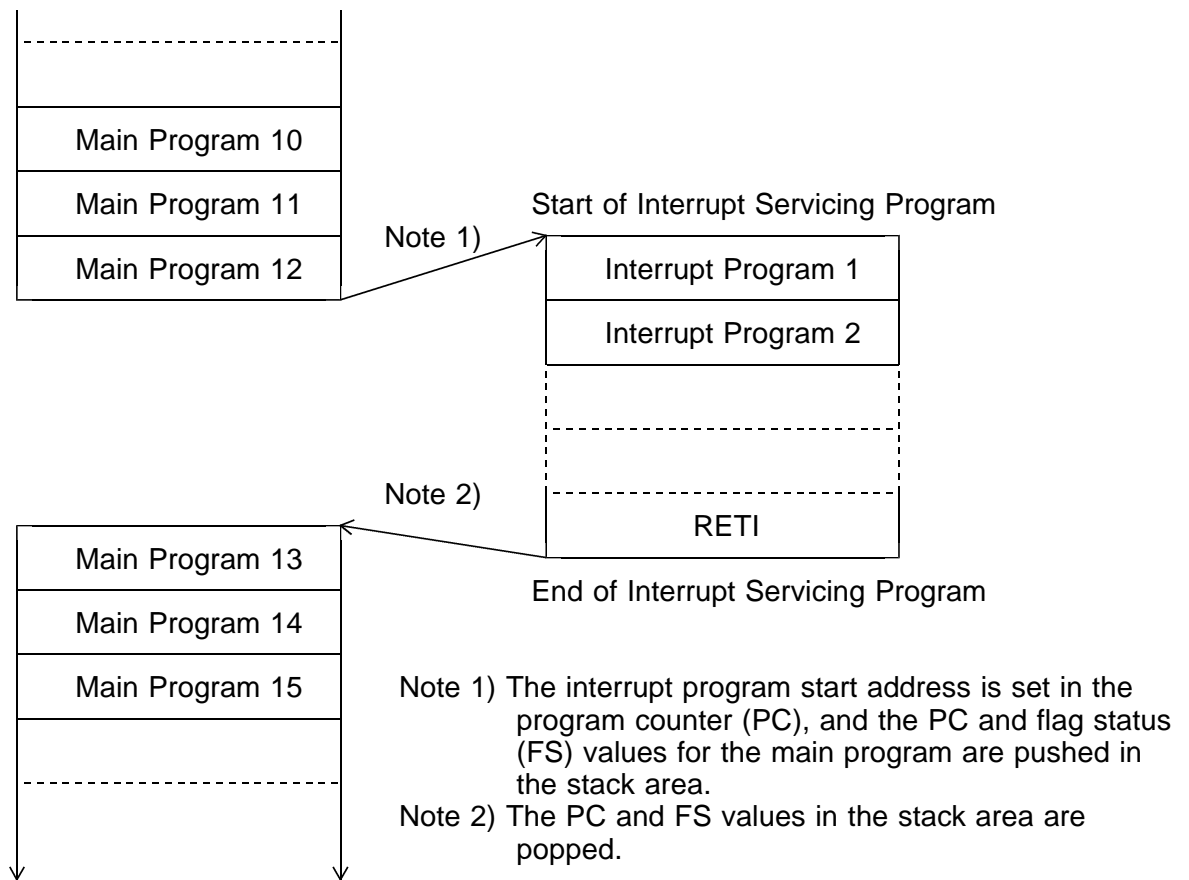

Fig. 4.2.1 Interrupt Operation
When an interrupt source such as timer is generated, the program is branched to the top of the interrupt servicing program to receive an interrupt (See Fig. 4.2.1). When an interrupt source is generated, the interrupt request flag (IF) is set.